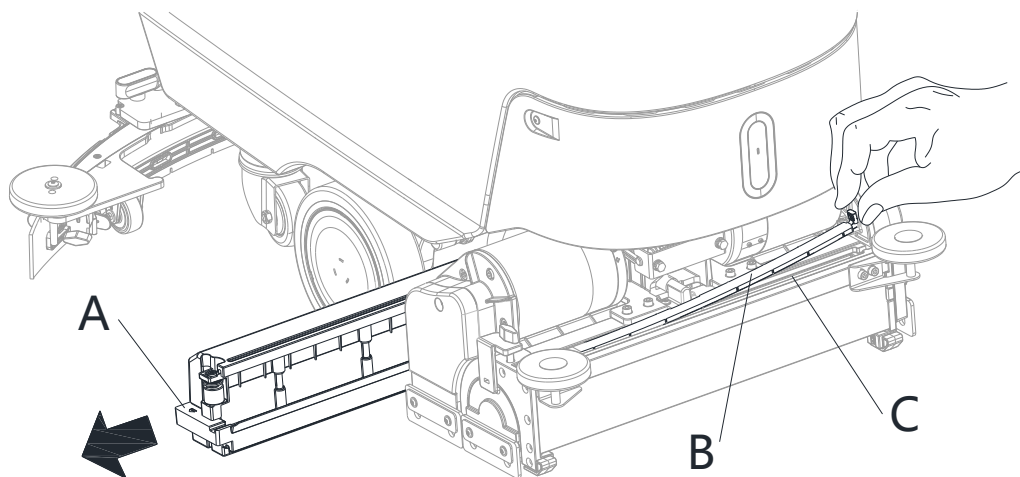

Figure 17
3. Pull the debris hopper (A, Fig. 17) from the side, then clean it carefully and reinstall it on the deck. Suggest clean it at the end of the shift.
4. Pull up rubber cover (B) and clean sink (C) to make sure all holes are not blocked. Reinstall the rubber cover (B) after cleaning.